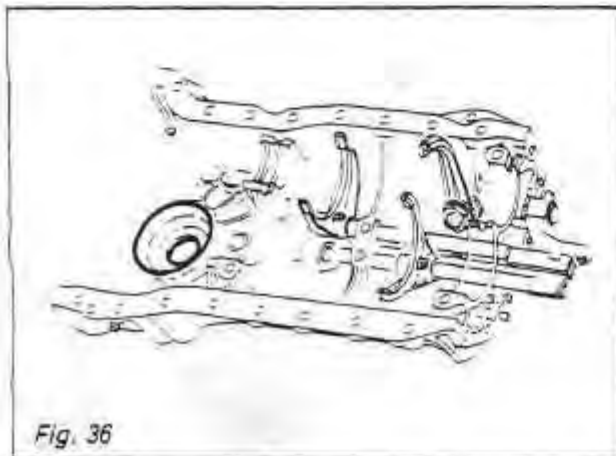

Fig. 36
9. Remove the bearing outer race from the right-hand half-case using Tool J23907. (Fig. 36)